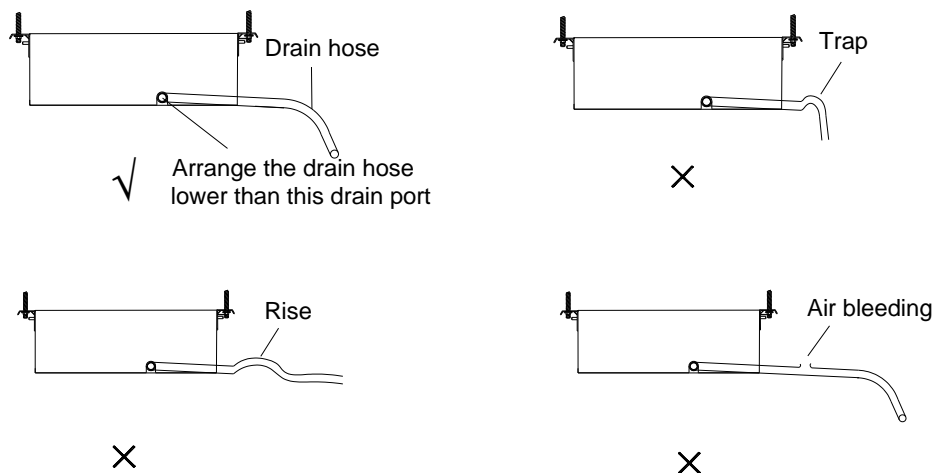

Figure 3-1-8
- (1) (Install the drain hose with downward gradient (1/50 to 1/100) and no risers or traps are used for the hose (Figure 3-1-8).
- (2) Be sure there is no crack or leak on the drain hose to avoid the formation of air pocket (Figure 3-1-8).